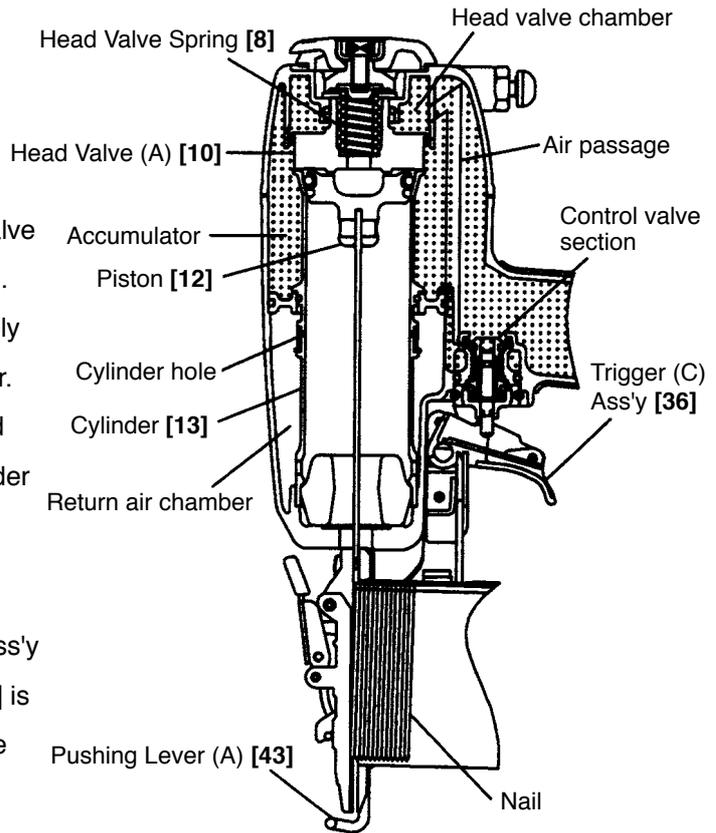
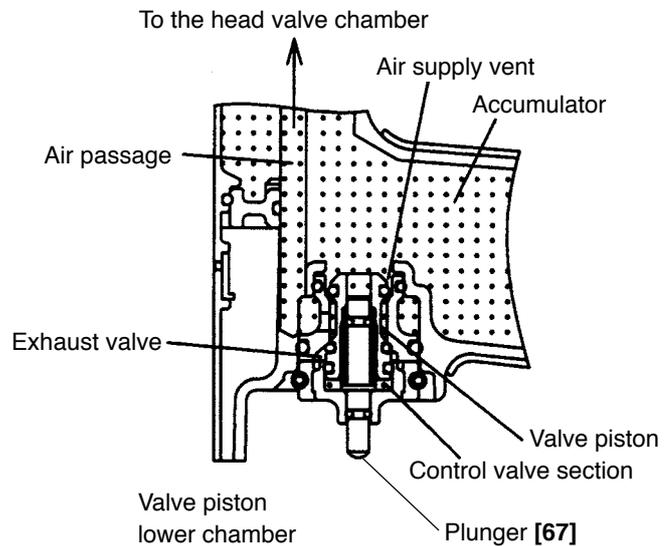

Fig. 4
Fig. 5 Control valve section
(1) Before nailing (See Fig. 4 and Fig. 5.)
(2) When nailing (See Fig. 4 and Fig. 5.)
- 3) When Trigger (C) Ass'y [36] is released, the Plunger [67] returns (lowers) completely as shown in Fig. 5. Compressed air then flows into the valve piston lower chamber, and the Valve Piston [63] is forced upward. The Piston [12] then returns fully upward. Therefore, unless Trigger (C) Ass'y [36] is released after each nailing operation, the structural mechanism prevents the next nailing operation.